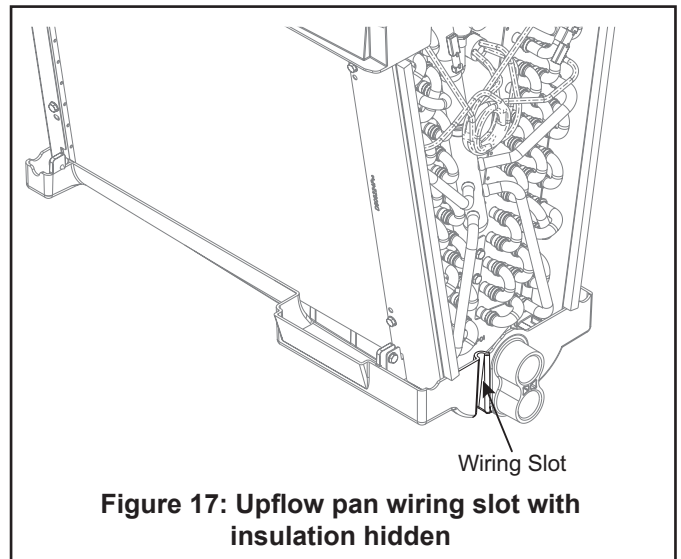

Figure 17: Upflow pan wiring slot with insulation hidden
8. Route wires through slot in front of upflow drain pan by gently peeling back the upflow drain pan gasket and placing wires in slot. Press gasket back down firmly. See Figure 17.